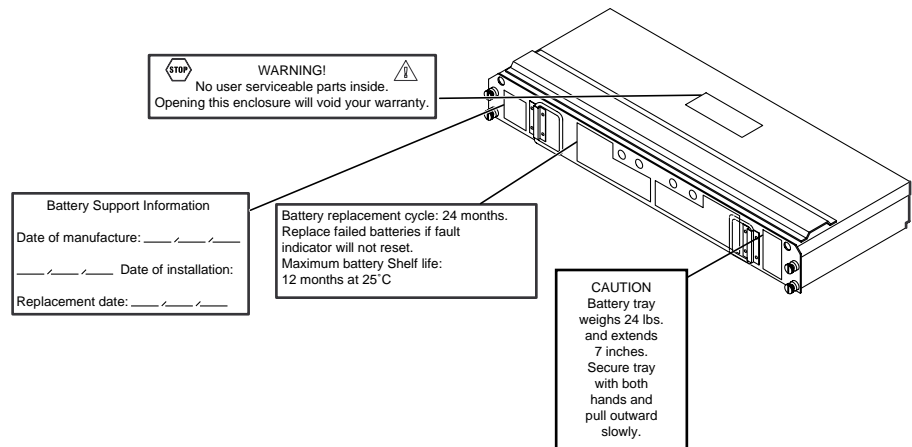

FIGURE 4-5 Battery Unit Service Label
2. Check the replacement date on the Battery Support Information label (FIGURE 4-5).